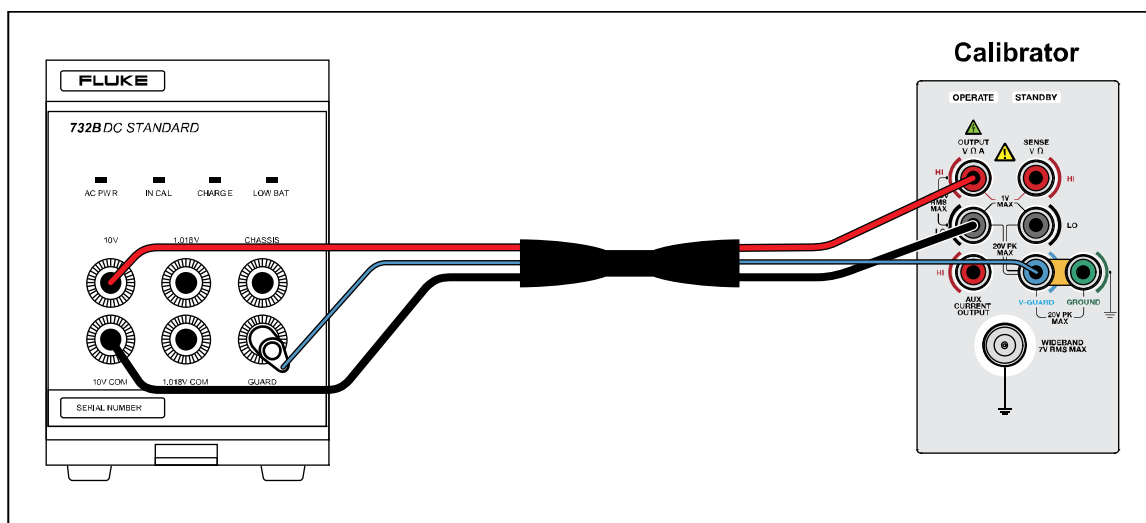

Figure 4. 732B External Calibration Connections
4. Connect the 732B to the Product as shown in Figure 4.